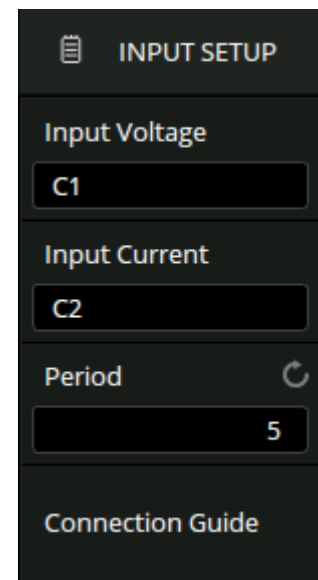

Figure 19.6 Input Setup Menu
1. Touch **Input Setup** to display the signal menu shown in figure 19.6.